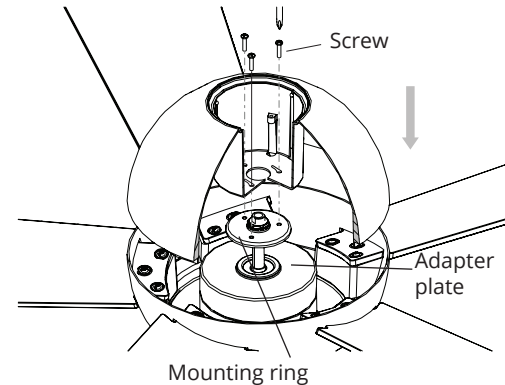

FIGURE 9
2. Place the key holes in the lower housing over the two screws previously loosened from the mounting ring. Turn the adapter plate until the mounting plate locks in place at the narrow section of the key holes (Fig. 9).